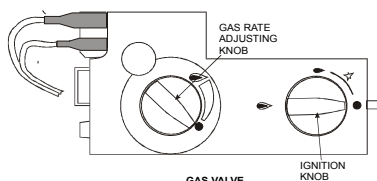

Figure 13
2. With the gas available at the valve press in the IGNITION KNOB and turn it anticlockwise to the pilot flame position (see **Figure 13**). A click of the piezo igniter will be heard and a spark will appear at the electrode. At the same time the gas will flow to the pilot burner and will be ignited by the spark. Repeat the procedure until the pilot flame is established.